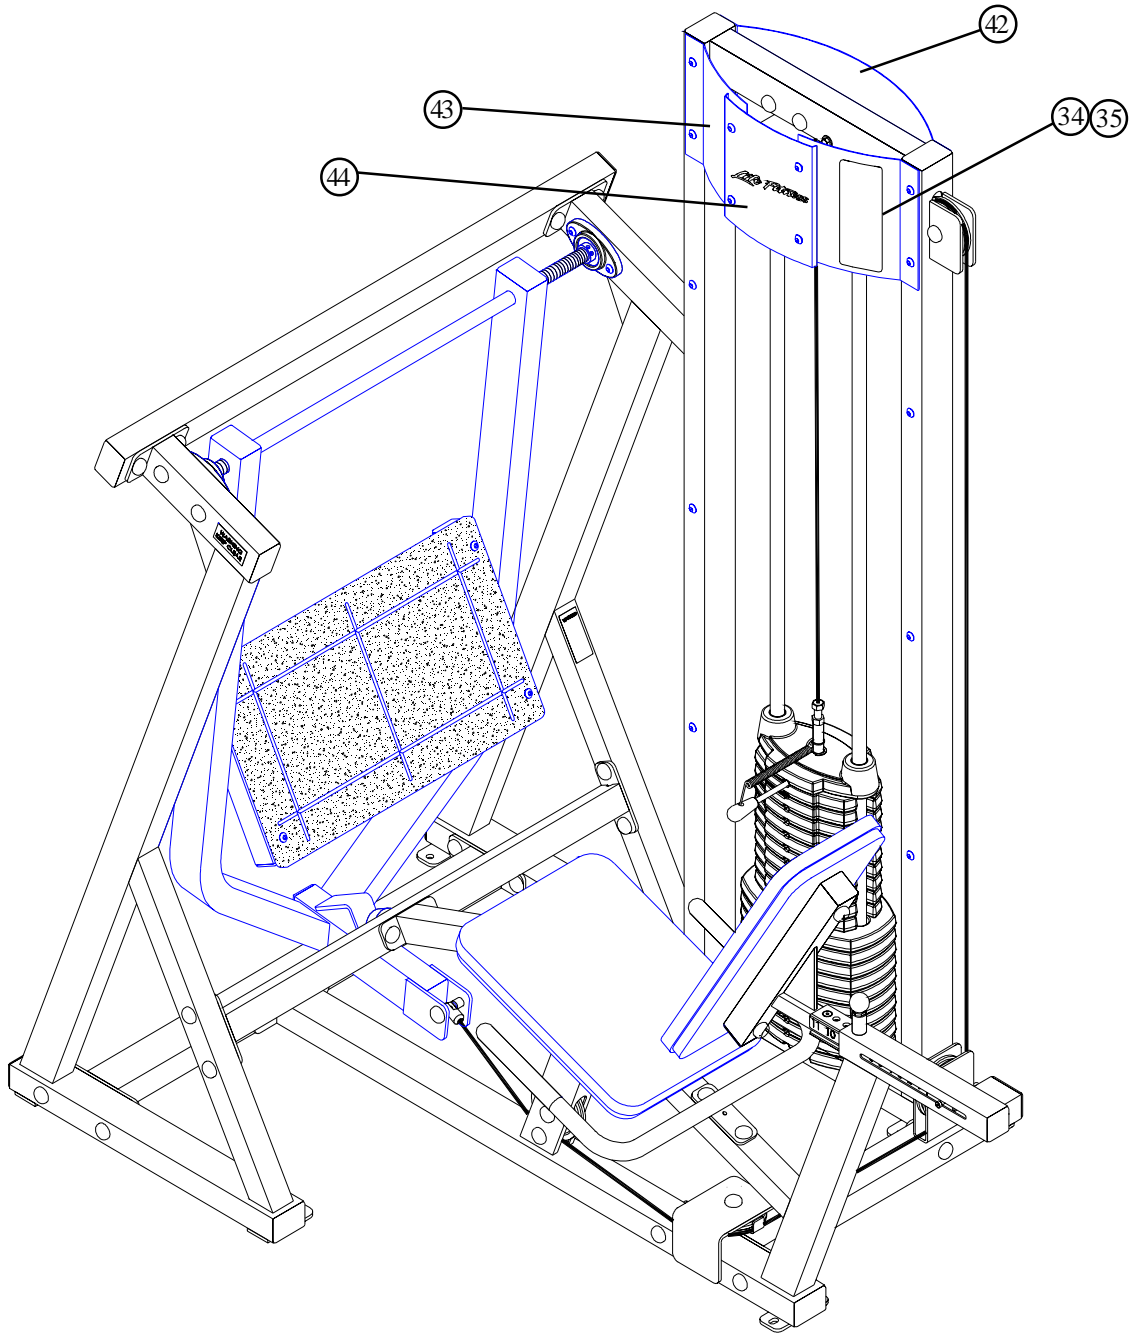

FIGURE 15
- Assemble the PLACARD LABEL (34) or the LANGUAGE ADDENDUM PLACARD LABEL (35) to the FRONT SHROUD as shown in FIGURE 15.